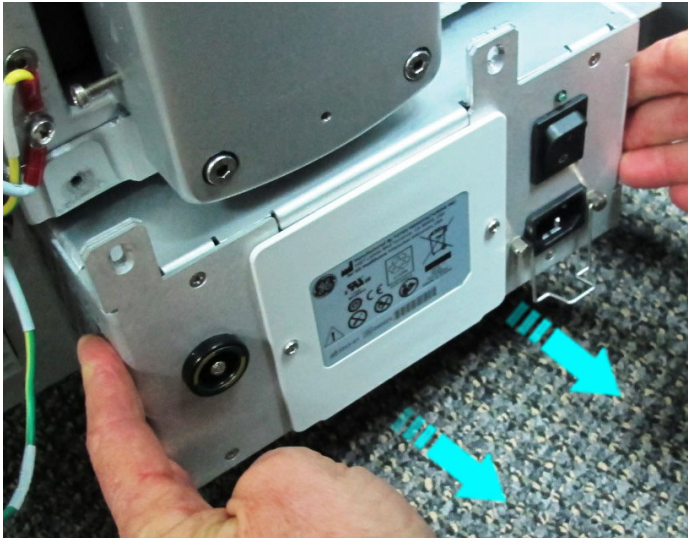

Figure 8-201 Removing the AC Distribution Box
- 6.) Slide the AC Box all the way out until it is completely removed from the system as shown in Figure 8-201 below.